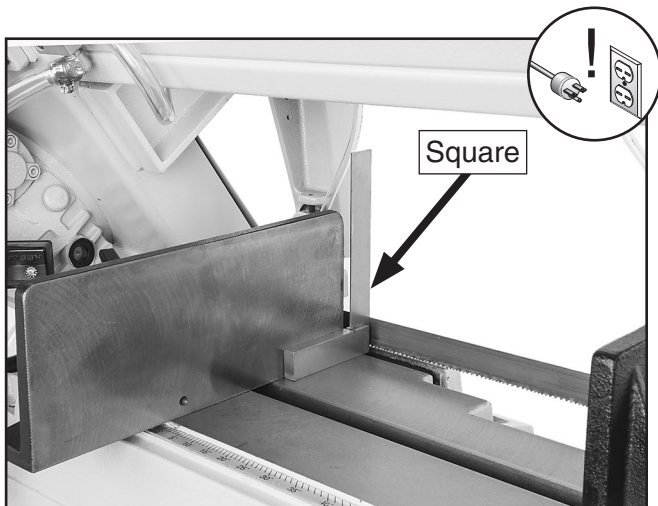

Figure 61. Checking blade-to-table squareness.
3. Place square on table bed and against edge of blade (see **Figure 61**), and check different points along length of table between blade guide assemblies.